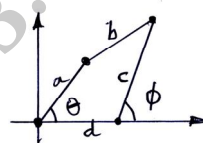

Fig.Q6(b)
- b. A schematic of a four bar mechanism with input link 'a' and output link 'c' is shown in Fig.Q6(b). The angles θ and ϕ for three successive positions are given in the table below: